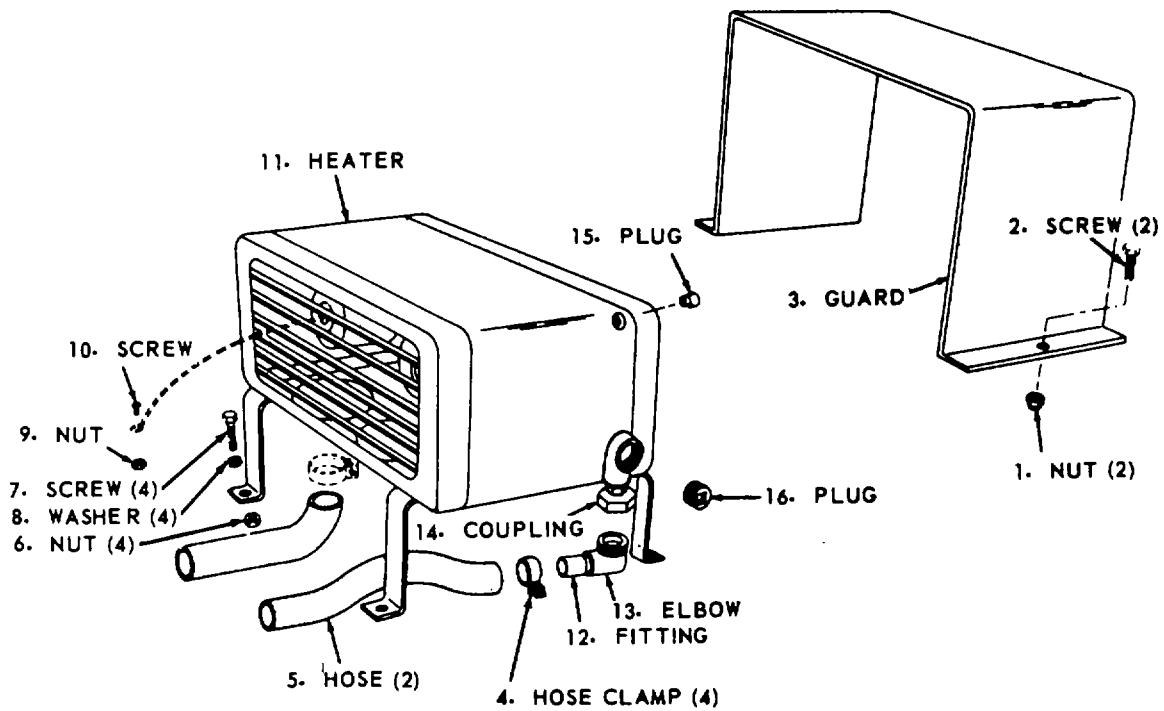

Figure 3-126. Heater, removal and installation.
a. Removal and Installation. Refer to figure 3-126 and remove the heater. Install in reverse order.
- (1) Clean all parts in an approved cleaning solvent and dry thoroughly.
- (2) Inspect tubing for kinks or clogging, mounting hardware for stripped threads or other damage, and cylinder for contents.
- (3) Replace a defective tube, damaged or defective mounting hardware, or an empty cylinder.